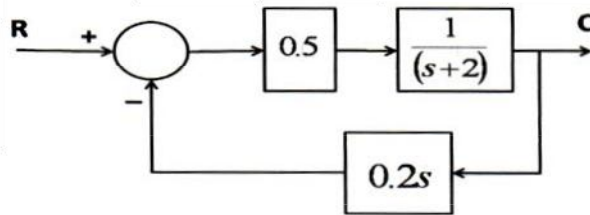

Figure 1
b) From the block diagram in Figure 1, determine the transfer function: C/R. **[4]**